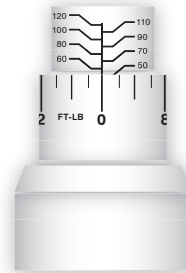

Figure 1
2. Line up edge of lock ring scale with the “60” mark on the tube and vertical line on ring with vertical line on tube. Wrench is now set to 60 ft/lbs. *See figure 1.*